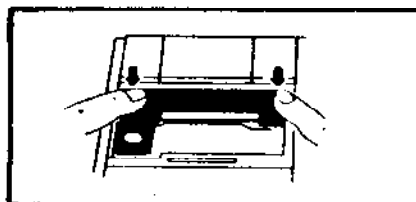

Figure 9.
- d. Install cartridge (see figure 9). Be sure the cartridge is inserted firmly to prevent weak or irregular printing. The cartridge must be properly seated and aligned for best printing.